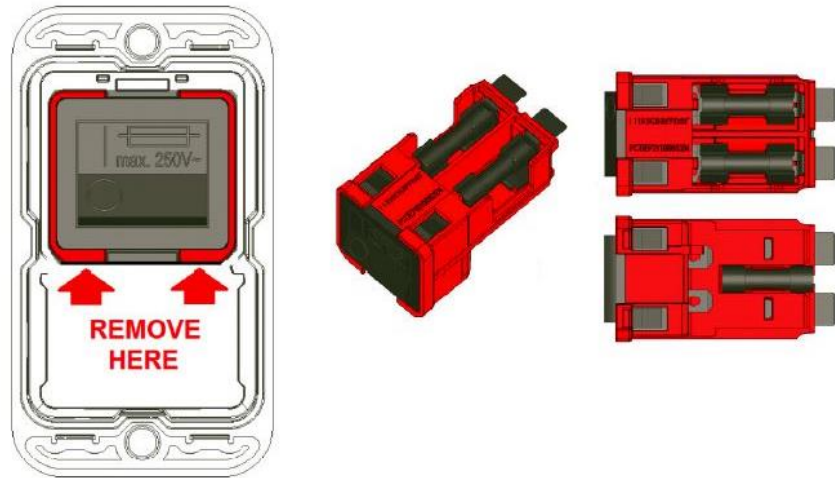

Figure 22
2.) Place the end of a 1/8" flat head screwdriver into one of the holes in bottom of the fuse holder. Pry the fuse holder out of the power entry module. See Figure 22.